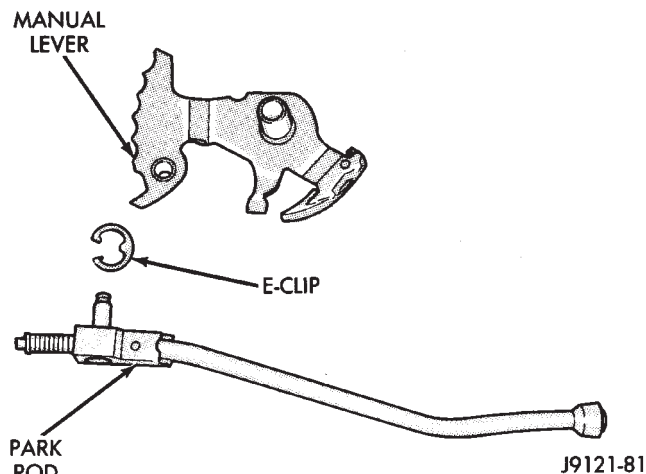

Fig. 105 Park Rod Removal
(17) Remove park rod E-clip and separate rod from manual lever (Fig. 105).